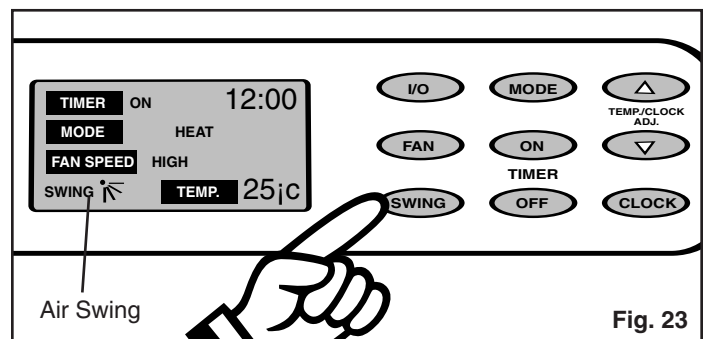

Fig. 23
- 4) Press the **SWING** key to activate the automatic air swing (oscillating) feature, (the “air swing” symbol will appear in the **LCD** window). *Fig. 23*. To deactivate the air swing feature, press the **SWING** key again.